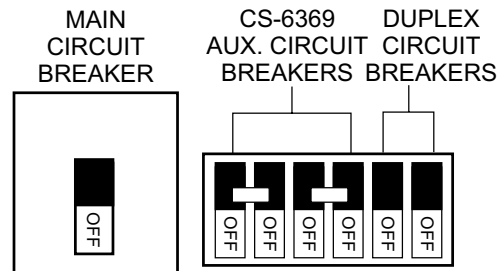

Figure 53. Main, Aux. and Duplex Circuit Breakers (OFF)
1. Place the **Main, Aux. and Duplex** circuit breakers as shown in Figure 53 to the **OFF** position.
The air filter indicator (Figure 53) is attached to the air filter. When the air filter element is clogged, air intake restriction becomes greater and the air filter indicator signal shows **RED**. When indicator is red, replace filter immediately. After changing the air filter, **press** the air filter indicator button to reset.